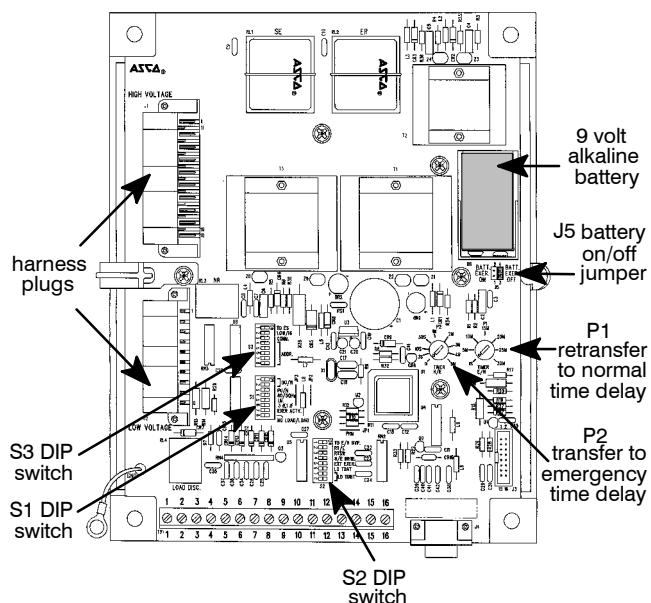
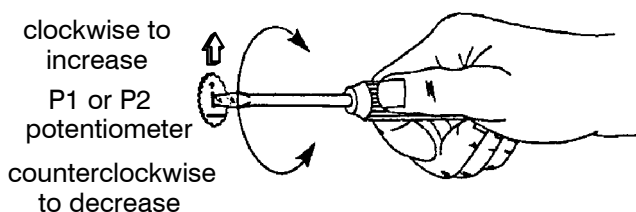
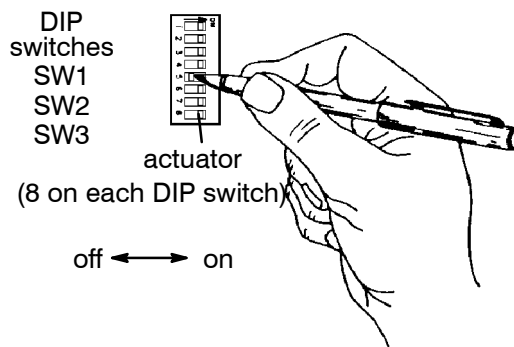

Figure 4-2. Location of potentiometers.
Figure 4-3. Changing time delay potentiometers.
Figure 4-4. Setting DIP switch actuators.
- Locate the appropriate adjustment potentiometer or DIP switch for the setting that you want to change. Refer to Table 4-1 and Table 4-2 on page 4-1 and Figure 4-2, Figure 4-3, Figure 4-4 on page 4-2.
- Use a small screwdriver to turn the potentiometer clockwise to increase the time delay or counterclockwise to decrease it. See Figure 4-3.
- Use a ball-point pen (or similar pointed tool) to slide the switch actuators left or right so they match the illustration next to the setting (left = off, right = on). Recheck the setting. See Figure 4-4.
The engine exerciser included in ASCO Series 300 Automatic Transfer Switches provides a once a week 20-minute exercise period. It occurs immediately when the **Set Engine Exerciser** push button is pressed (and held for at least 5 seconds), and then at the same time weekly thereafter. A 9 volt alkaline battery (*Duracell* MN1604, *Everready* 522, or *Panasonic* 6AM6) is furnished and installed in the controller to maintain the setting. The battery jumper block must be shifted to the ON position. See Figure 4-2 on page 4-2.